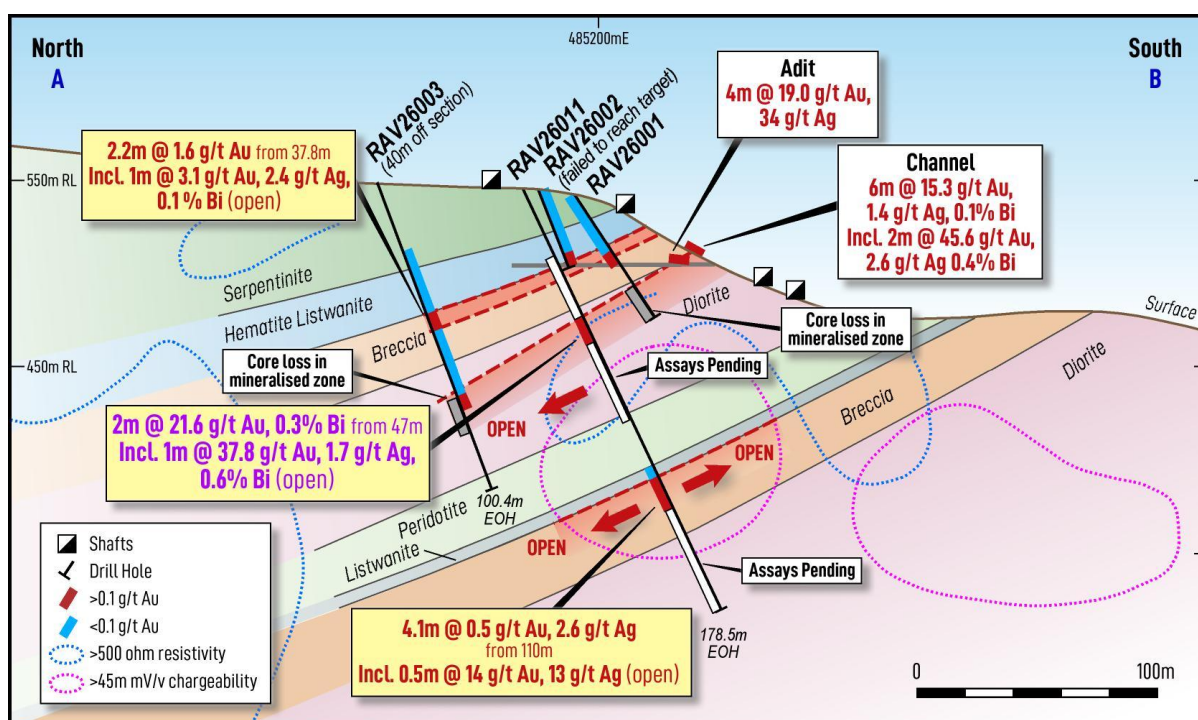

Figure 3. Cross section of RAV26011. Note core loss in mineralised zone in RAV26001 and RAV26003.
Drilling at Drenjak intersected high-grade gold mineralisation in RAV26011 including (Figure 3, Table 2):
The RAV26011 results validate the Drenjak geological model, successfully confirming the continuation of previously reported high-grade surface channel and historic underground mineralisation at depth. The intersection corresponds closely with surface channel results of 6m @ 15.3 g/t, 1.4 g/t Ag, 0.1% Bi including 2m @ 45.6 g/t Au, 2.6 g/t Ag, 0.4% Bi and historic adit sampling of 4m @ 19.0 g/t Au, 34 g/t Ag¹ (see Figure 3).
- 2.2m @ 1.6 g/t Au, 1.5 g/t Ag from 37.8m including 1m @ 3.1 g/t Au, 2.4 g/t Ag, 0.08% Sb, 0.07% Bi in new shallower mineralised zone (drill pad at higher elevation and step back – see Figure 3); and